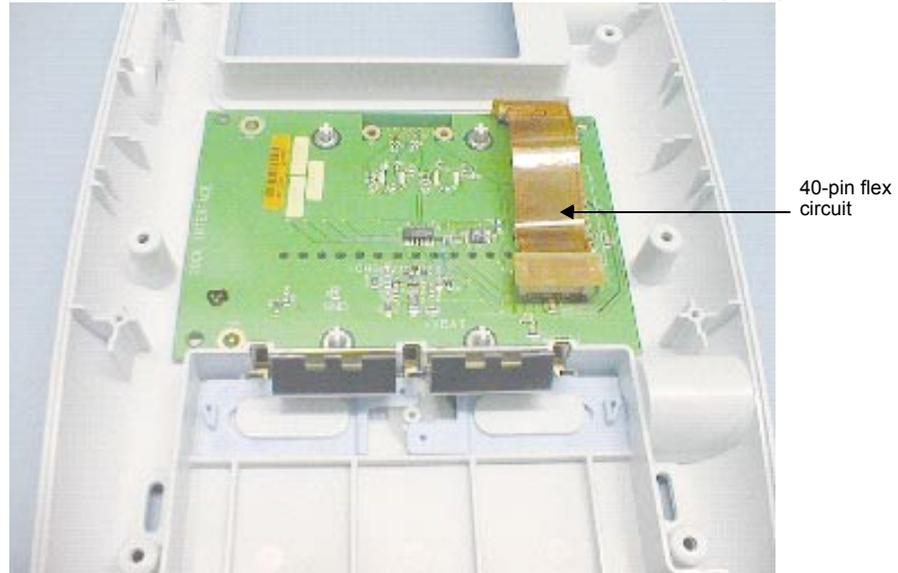

Figure 7.20 Replacing the Main PCBA
1. Set the replacement Main PCBA onto the bottom housing (Figure 7.20).